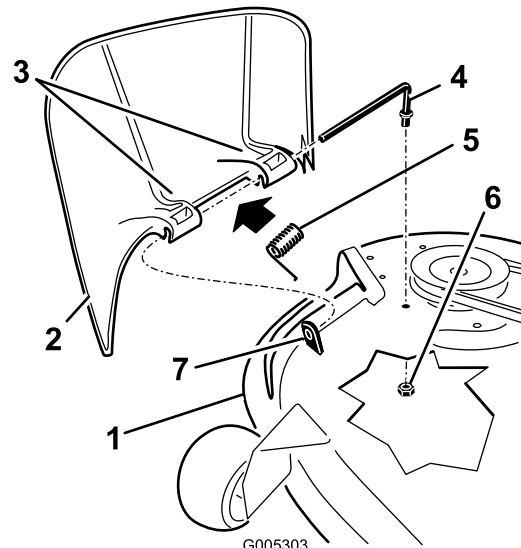

Figure 54
1. Locate items shown in Figure 54.
2. Remove the nut (3/8 inch) from the rod under the mower (Figure 54).
3. Slide the rod out of the short stand-off, spring, and grass deflector (Figure 54). Remove the damaged or worn grass deflector.
4. Replace the grass deflector (Figure 54).
6. Place the spring on the rod, with end wires down, and between the grass deflector brackets. Slide rod through second grass deflector bracket (Figure 54).
7. Insert rod at front of grass deflector into short stand-off on deck. Secure rear end of rod into the mower with a nut (3/8 inch) (Figure 54).